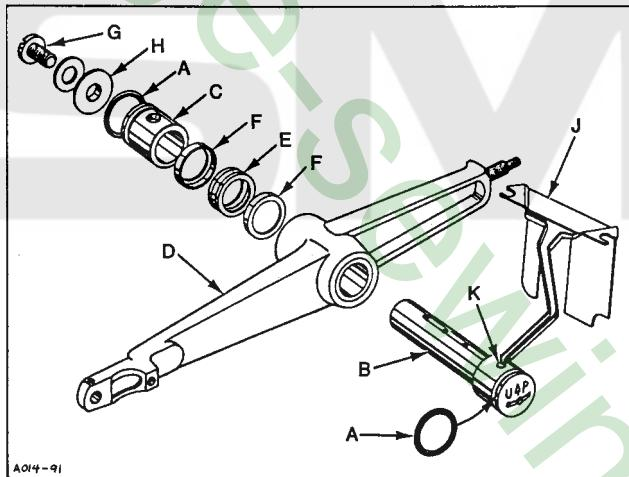

Fig. 15
1. Install "O" rings (A, Fig. 15) onto needle lever stud (B) and thrust collar (C).
2. With needle lever (D) in machine and positioned properly; insert stud (B) through hole in needle lever until its shoulder contacts the needle lever and the word "UP" on stud is in the upright position. While making sure no binding exists in the needle bar link, secure stud (B) with the front set screw in top of machine bed.
3. Install temper load ring (E) and compression cups (F) onto stud (B), then push ring and cups through opening in machine bed.
4. Install thrust collar (C) onto stud (B) being careful not to damage "O" ring. Compress components together by tightening screw (G) until washer (H) bottoms against stud (B). Secure stud (B) in position using the rear set screw in top of bed.
5. To check temper load ring for proper compression, remove screw (G) from stud (B) and loosen rear set screw in top of bed. Thrust collar (C) should spring out .003 -.007 inch (.08-.18mm). Compress load ring in reverse order, then tighten rear set screw.
6. With indented "UP" on stud (B) in upright position, install bearing oiler (J) so it's hook sets in oil supply hole (K) of stud. When hook and stud are secured in their proper position, the proper amount of oil will be channeled to stud for lubricating needle lever (D).